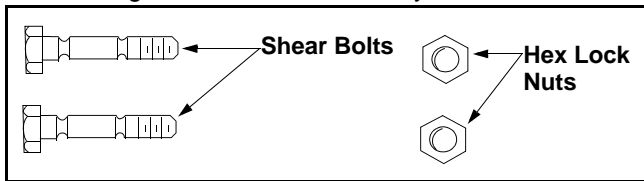

Figure 1
- The augers are secured to the auger shaft with two shear bolts and hex lock nuts. If you hit a foreign object or ice jam, the snow thrower is designed so that the bolts may shear. Two replacement shear bolts and nuts are provided for your convenience. See Figure 1. Store these safely until needed.